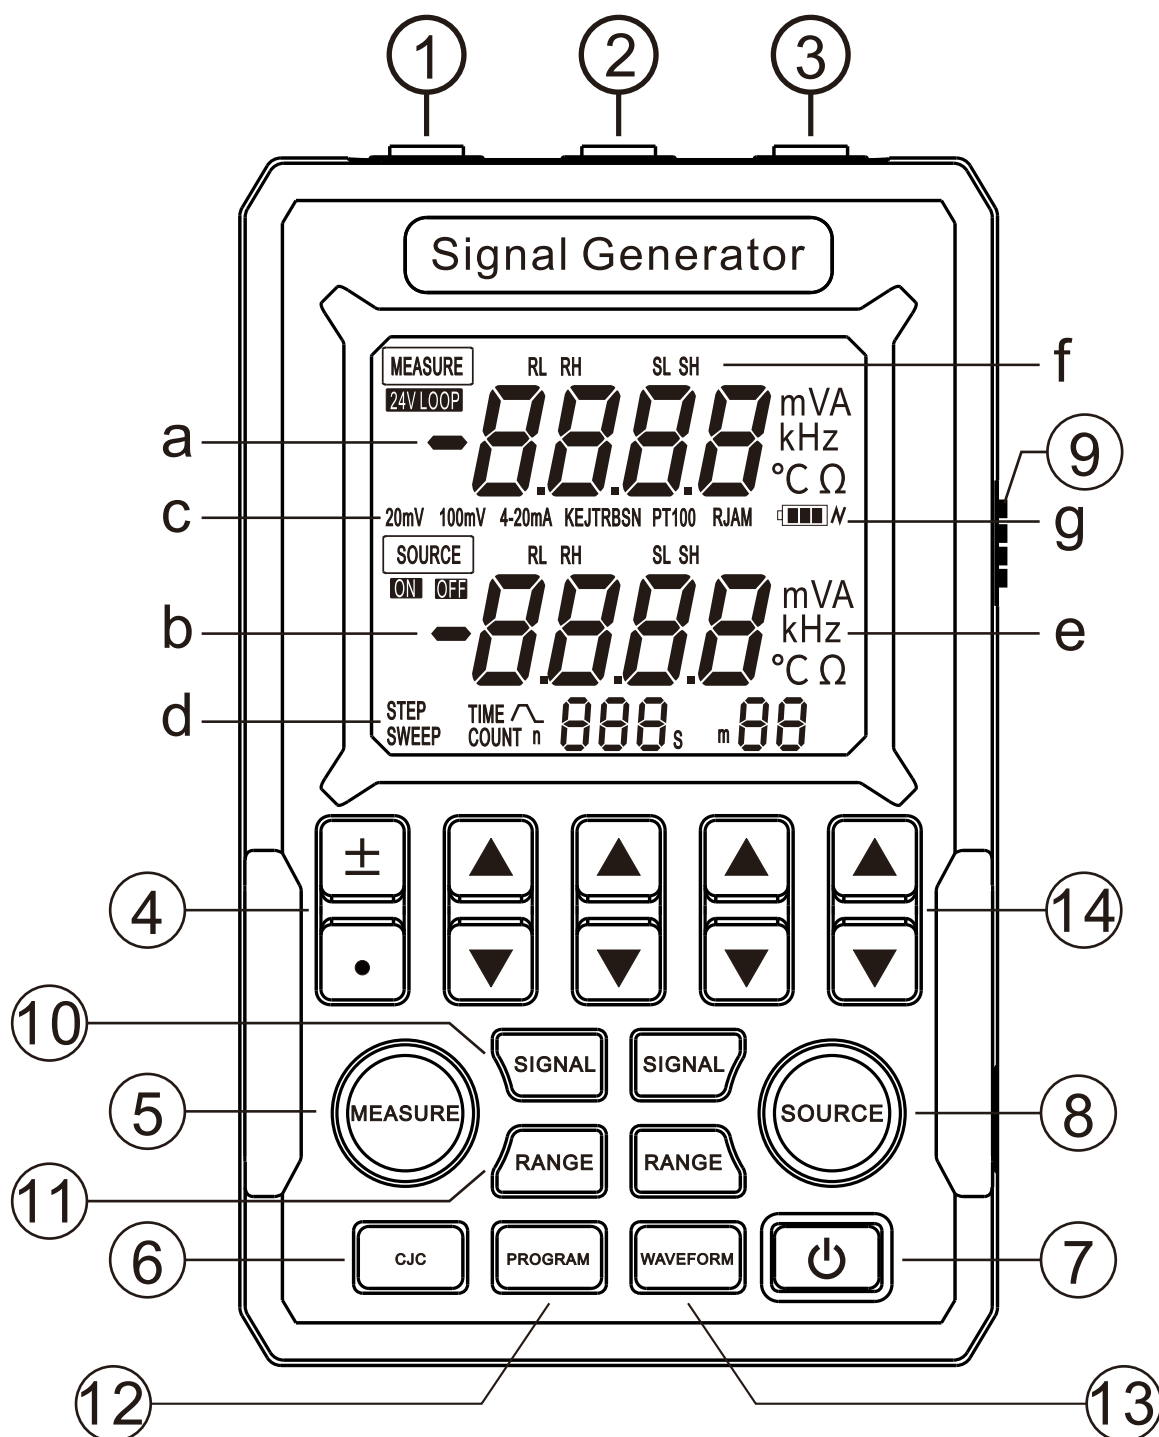

Figure 1 Front view of the signal calibrator
- The port for the test pen is as shown in Figure 1. Please see Table 3 to its function .
- If the measurement end is used for signal measurement, insert the test pen into ports ① and ③ in Figure 1.
- If the output end is used for signal output, insert the test pen into ports ① and ② in Figure 1.